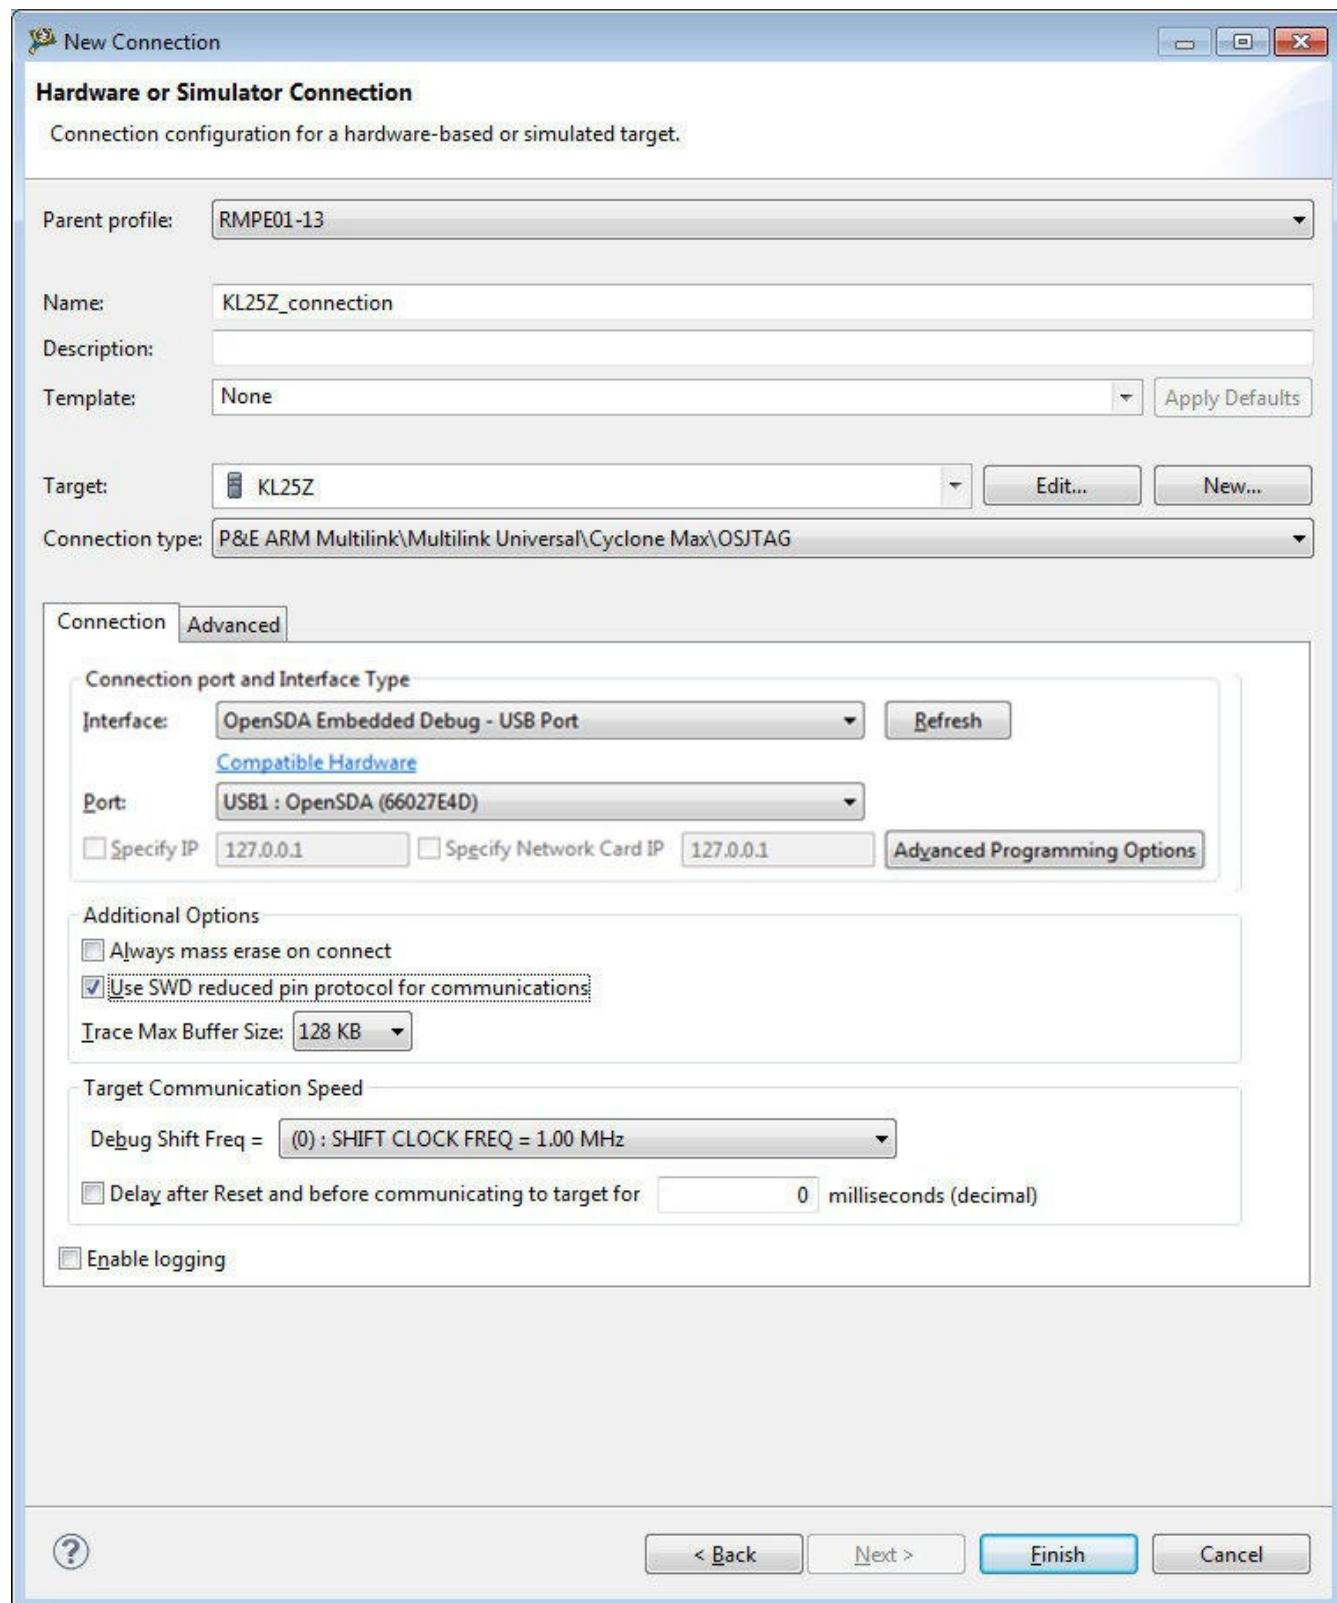

Figure A-7. CodeWarrior run configuration dialog
9. Configure the **New Connection** dialog as shown in Figure A-7. (If you have a K20D50M board, change KL25Z to K50D50M) and then click the **Finish** button. The focus will return to the **Run Configuration** dialog.